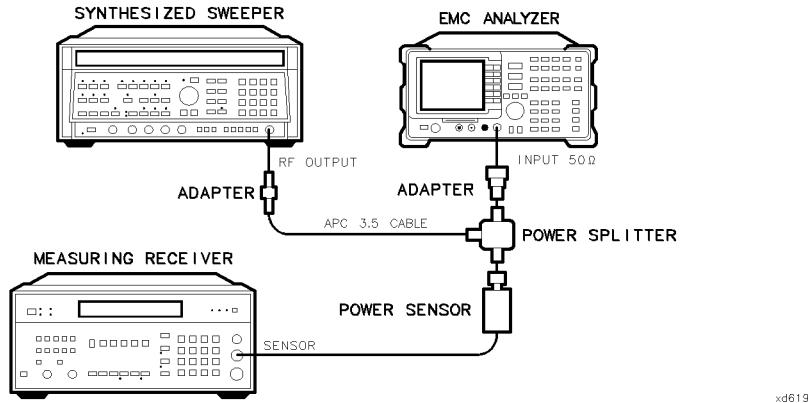

Figure 2-34.
3. Connect the equipment as shown in Figure 2-34. Connect the output of the synthesizer to the power sensor.